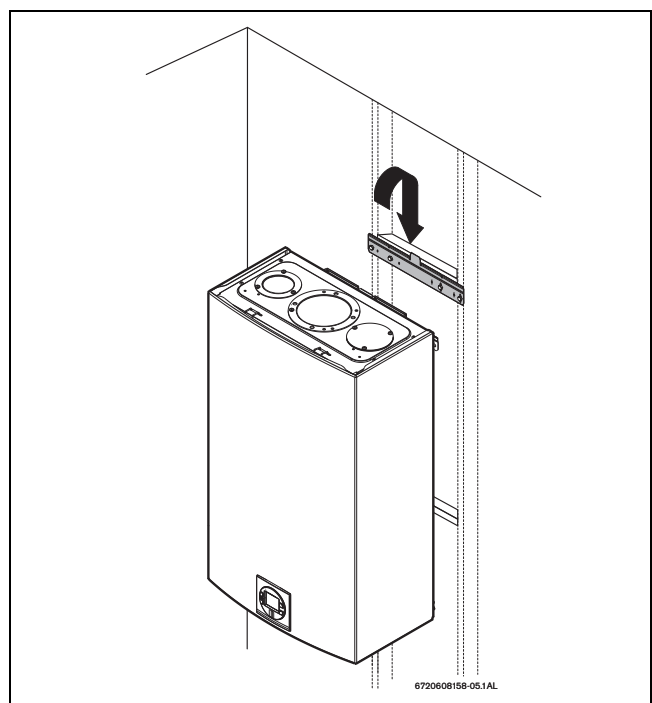

Fig. 28 Mounting the heater
- ▶ Hang the appliance on the bracket, see fig. 28, page 25.